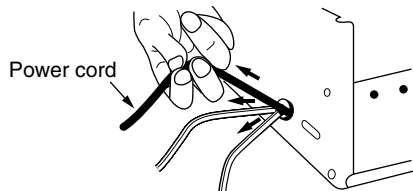

Fig.2
Turn the loading motor pulley in the direction as indicated by Fig.2. As both (A) and (B) levers are lodged twice, push the levers in the direction as indicated by Fig.3 to release them. When pushing the levers, do it in the order of (A), (B), (B), (A). When the holder has been lowered, turn the pulley until the cassette holder is securely in place without allowing any up/down movement.